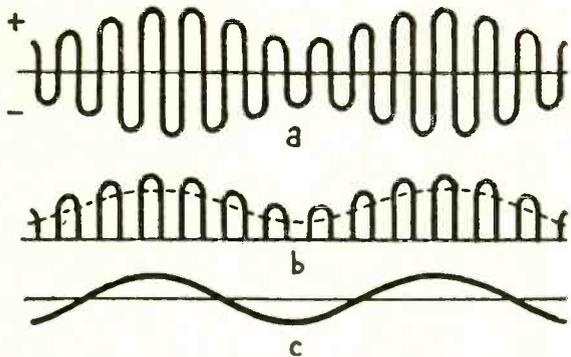

Fig. 2. Here we show (a) a radio carrier (a); (b) the carrier after passing through the crystal detector; and (c) subsequent filtering by a headphone capacitor.
An amplitude-modulated (AM) signal such as the crystal set is designed to receive consists of an audio component (the voice and/or music being transmitted) superimposed on a radio-frequency signal known as the *carrier*. The amplitude, or strength, of the carrier varies in accordance with the pattern of the audio signal impressed upon it. In the graphic representation shown in Fig. 2(a), the carrier is represented by the alternating current repeatedly varying between plus and minus values. The audio signal is represented by the more gentle variations impressed on the carrier.
If you look at the crystal radio schematic, however, you'll see that no signal can pass through the headphones without passing through the crystal detector. The characteristics of the crystal are such that it acts as a one-way valve. The net effect is represented in Fig. 2(b), where the negative parts of the signal have been completely cut off with only the positive parts reaching the headphones. However, the rapid variations of the radio carrier can still be seen within the envelope of the audio signal.
tion and silence in the headphones. The net result is that the radio carrier variations are smoothed out (filtered) and effectively disappear, as shown in Fig. 2(c), leaving only the audio signal—which is now audible in the phones.